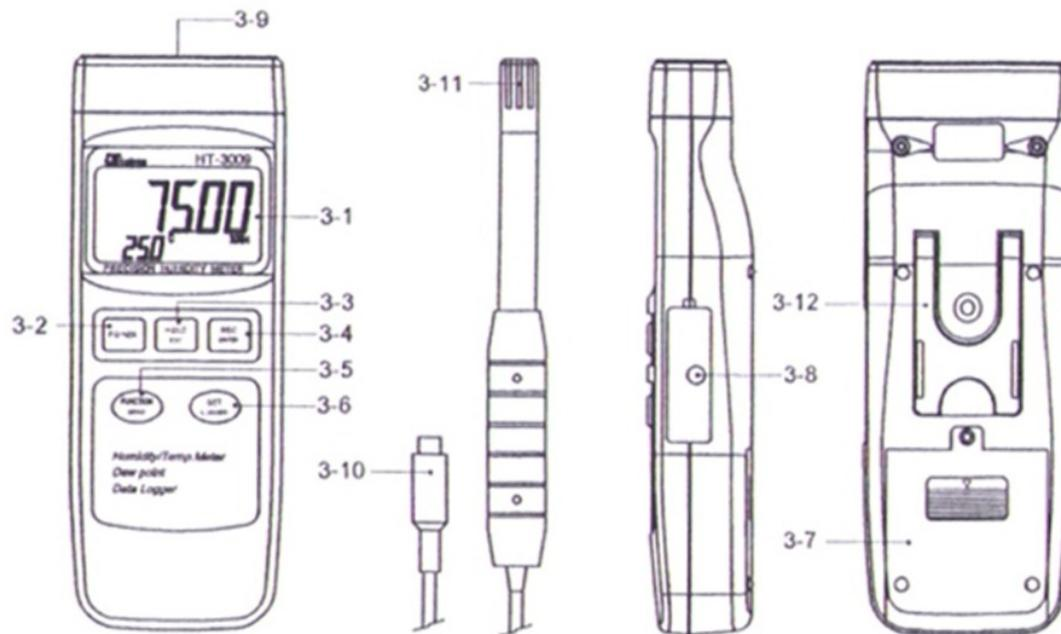

Fig. 1
- 1) Plug the " Probe Plug " ( 3-10, Fig. 1 ) into the " Probe Input Socket " ( 3-9, Fig. 1 ).
- 2) Power on the meter by pressing the " Power Button " ( 3-2, Fig. 1 ), the LCD shows the unit " %RH " & " °C " at the same time and measured value will show on the display ( upper display is Humidity value, the lower display is the temperature value ) .
The procedures of " Dew point measurement " are same as the above " 4-1 Humidity and Temperature measurement " except select the " Dew point " function by pressing the " Function Button " ( 3-5, Fig. 1 ) once, the LCD will show the unit " DEW " & " °C ( or °F ). The upper display show the Dew point value, the lower display show the temperature value.
During the measurement, press the " Hold Button " ( 3-3, Fig. 1 ) once will hold the measured value & the LCD will display a " HOLD " symbol.
- \* The data record function records the maximum and minimum readings. Press the " REC Button " ( 3-4, Fig. 1 ) once to start the Data Record function and there will be a " REC. " symbol on the display.
- a) Press the " REC Button " ( 3-4, Fig. 1 ) once, the " REC. MAX. " symbol along with the maximum value will appear on the display.
*If intend to delete the maximum value, just press the " Hold Button " ( 3-3, Fig. 1 ) once, then the display will show the " REC. " symbol only & execute the memory function continuously.*
- b) Press the " REC Button " ( 3-4, Fig. 1 ) again, the " REC. MIN. " symbol along with the minimum value will appear on the display.
*If intend to delete the minimum value, just press the " Hold Button " ( 3-3, Fig. 1 ) once, then the display will show the " REC. " symbol only & execute the memory function continuously.*
a) Press the " REC Button " ( 3-4, Fig. 1 ) once to start the Data Record function and there will be a " REC. " symbol on the display.
Press the " Logger Button " ( 3-6, Fig. 1 ) once to start the Data Logger function. The upper display will show the sampling time in seconds ( For example, 1, 2, 10, 30, 60, 600, 1800, 3600 ) once a while then revert to the normal display screen. In the same the top display will show the marker " A ", the marker " A " will be flashed per sampling time. Now the Data Logger function is executed.
Press the " Logger Button " ( 3-6, Fig. 1 ) once will save the data one time into the memory, at the same time the the marker " A " will be flashed once a while.
If Press the " Logger Button " ( 3-6, Fig. 1 ) once, both the mark " A ", upper display and lower display are flashed, it indicate the memory data already over 1000 no. and the memory is full.
c) During the Data Logger function is executed, press the " Logger Button " ( 3-6, Fig. 1 ) once will stop to execute the data logger function, the mark " A " will disappeared. If press the " Logger Button " ( 3-6, Fig. 1 ) once again will continuous the Data Logger function.
- a. Hold the " Set Button " ( 3-6, Fig. 1 ) at least two seconds until the lower display show " COde ", then release the " Set Button ", the upper display will show " 1000 ".
- \* 1000 is the password code that allow to execute the Advanced Measuring Procedure following.After display show " COde 1000 ", push the " Enter Button " ( 3-4, Fig. 1 ) once will go to the following b. procedures.
- \* If push the " ESC Button " ( 3-3, Fig. 1 ) will escape the selecting function and retun to the normal measuring display.
- b. One by one to press the " Set Button " ( 3-6, Fig. 1 ) once a while to select the five main function that show on the lower display as :
Use the " Set Button " to select the main function to " °F ", then one by one to press the " Function Button " ( 3-5, Fig. 1 ) a while will determine the default Temp. unit to °C or °F
After the function is determined, press the " Enter Button " ( 3-4, Fig. 1 ) to confirm and save the selection data into memory IC permanently. Press the " Esc Button " ( 3-3. Fig. 1 ) will revert to normal display screen.
Use the " Set Button " to select the main function to " SEC ", ( SECOND ) then one by one to press the " Function Button " ( 3-5, Fig. 1 ) a while will determine the default Data Logger sampling time value ( seconds ).
After the function is determined, press the " Enter Button " ( 3–4, Fig. 1 ) to confirm save the selection data into memory IC permanently. Press the " Esc Button " ( 3–3. Fig. 1 ) will revert to normal display screen.
Use the " Set Button " to select the main function to " Cnt " ( count ), then the upper display will show the balance data numbers that exist into the memory ( allow memorize data no. ). Press the " Esc Button " ( 3–3. Fig. 1 ) will revert to normal display screen.
2) Press the " Function Button " ( 3-5, Fig. 1 ) once, the upper display will show " 0 ", if intend to clear the existing saving data from the memory, just press the " Enter Button " ( 3-4, Fig. 1 ) to confirm, then the existing data will clear from the memory IC.
*Before Press the " Function Button " ( 3-5, Fig. 1 ) to confirm, it can press the " Esc Button " ( 3-3, Fig. 1 ) to exist the clear function and the data will be not cleared.*
Use the " Set Button " to select the main function to " OFF ", then one by one to press the " Function Button " ( 3-5, Fig. 1 ) a while will determine the default the power management system is Auto Power Off enable or disable.
After the function is determined, press the " Enter Button " ( 3-4, Fig. 1 ) to save the selection function into memory IC permanently. Press the " Esc Button " ( 3-3, Fig. 1 ) will revert to normal display screen.
- 2) Press the " Send Button " ( 3–5, Fig. 1 ) at least 2 seconds until the lower display show " 232 ", then release the button.
- 3) Push the " Send Button " ( 3–5, Fig. 1 ) once, then both the upper and the lower display will flash slowly, at the same the storage data logger data will be send out the meter from the " RS–232 Output Terminal " ( 3–8, Fig. 1 ).
The instrument has RS232 PC serial interface via a 3.5 mm terminal ( 3–8, Fig. 1 ).